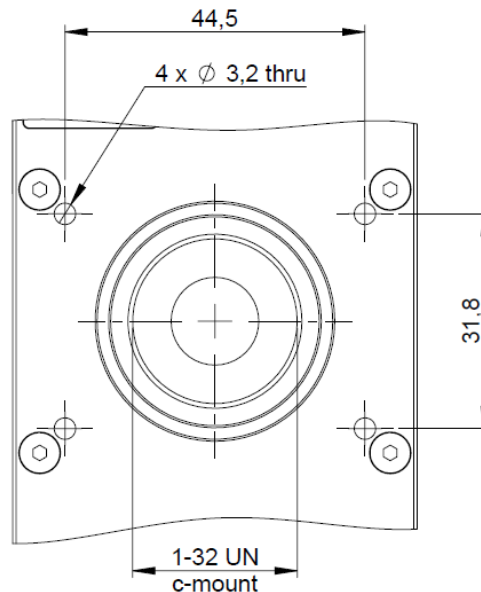

Fig. 4: Mounting options on the front side of the PMA Hybrid Unit with pitch and dimensions
1. Mounting the detector via the 4 threaded holes (3.2 mm diameter suited for M3 screws) as shown in Fig.4
2. Mounting the detector via the 1-32 UN (C-Mount) thread as shown in Fig.4